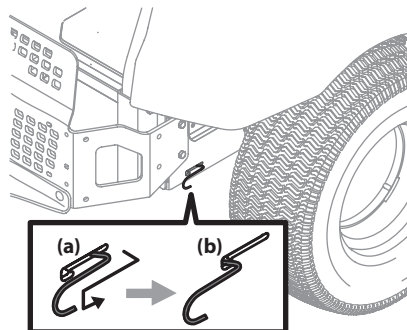

Figure 4-8
1. From the rear of the tractor, just inside the two rear tires, locate the transmission bypass rods. Refer to Figure 4-8.
2. Engage the transmission bypass rods, one on each side of the tractor, to move the tractor manually without starting it. Engage the bypass rods by pulling each one back (a) and hooking it into the slot (b) to lock it into place. See Figure 4-8.
3. Disengage the bypass rods by reversing steps (a) and (b) after moving the tractor. See Figure 4-8.